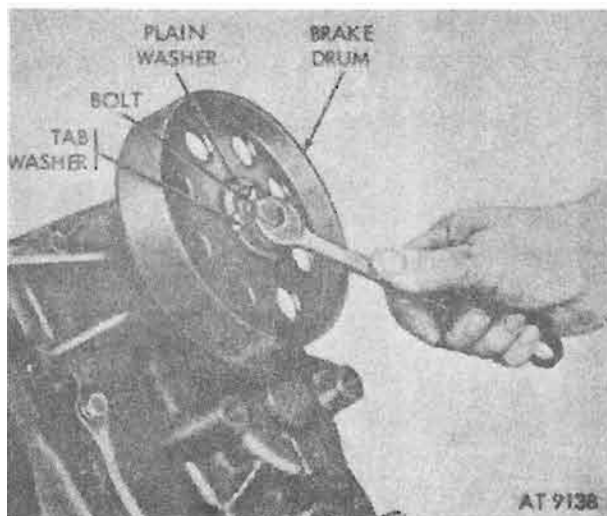

Figure 8-5. Parking brake drum.
e. Open tab of tab washer and remove parking brakedrum-retaining bolt and washer and then remove parking brakedrum from transmission output shaft (fig. 8-5).